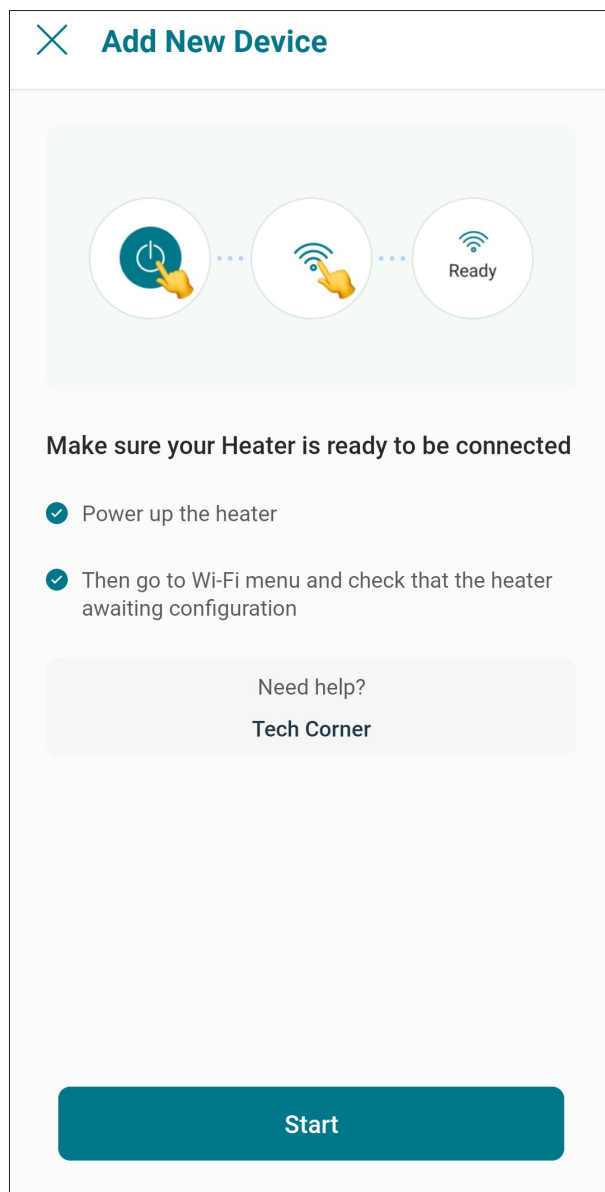

Figure 102. Check your Unit
4. "Check your Device" screen will appear. Ensure to have the heater powered and Wi-Fi signal available in the area, then press "Ready" button. See Figure 102.